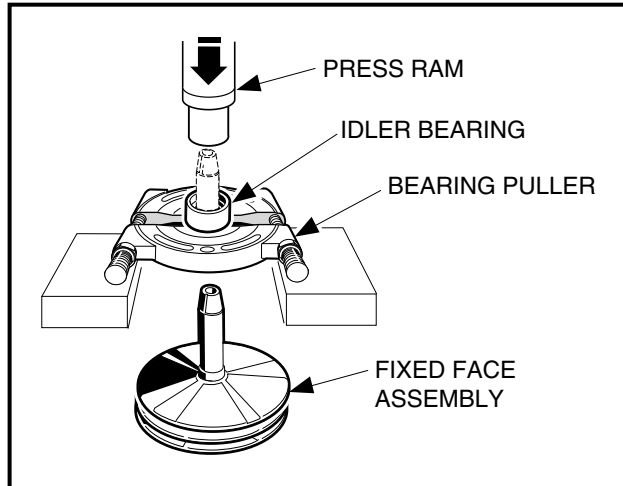

Figure 17-10 Remove Idler Bearing
8. If necessary, remove idler bearing. Use a press to remove the bearing (**Figure 17-10, Page 17-11**). See following NOTE.